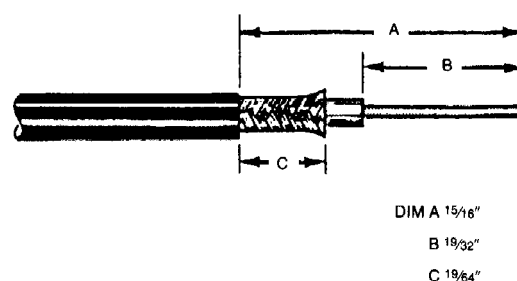

Figure 13.
2. Prepare the cable to strip dimensions per Figure 13 which is also marked on the hand-tool.